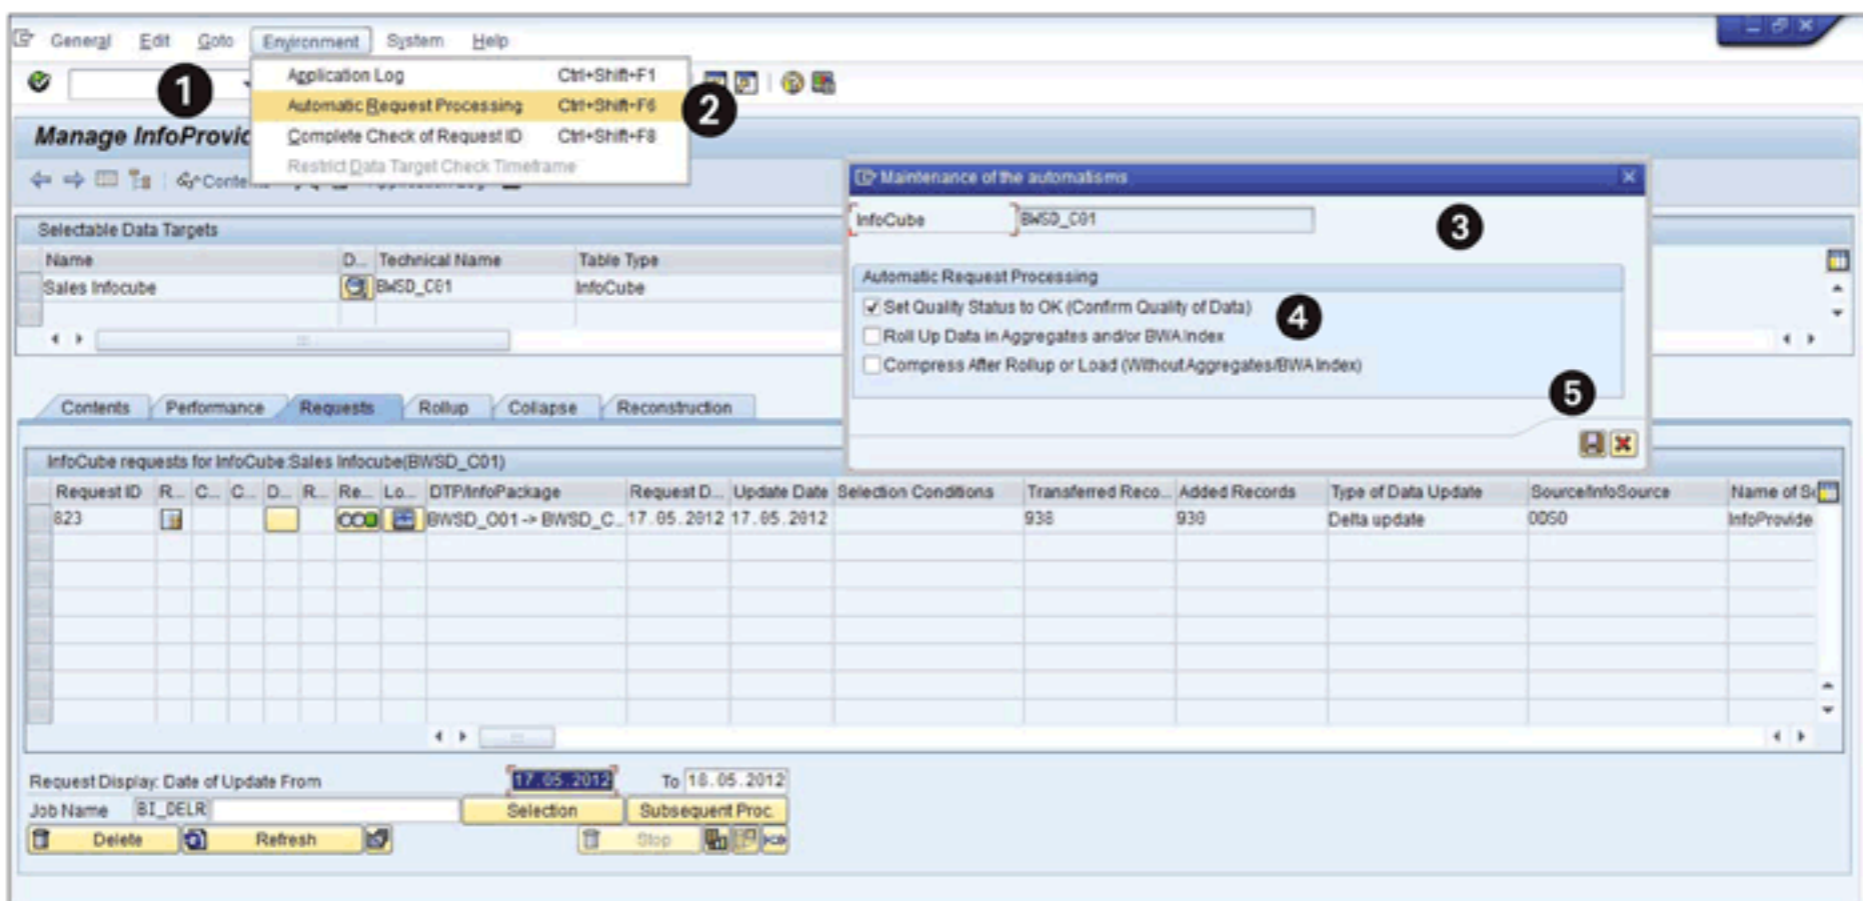

Figure 14.19 InfoCube—Automatic Request Processing
One of the main ways to improve performance in InfoCubes is to automate request processing. Choose the following menu path within the administration screen of the InfoCube: ENVIRONMENT • AUTOMATIC REQUEST PROCESSING (1 and 2 of Figure 14.19). The resulting pop-up box (3) allows you to set flags related to data quality, rollup, and compression of requests (4).